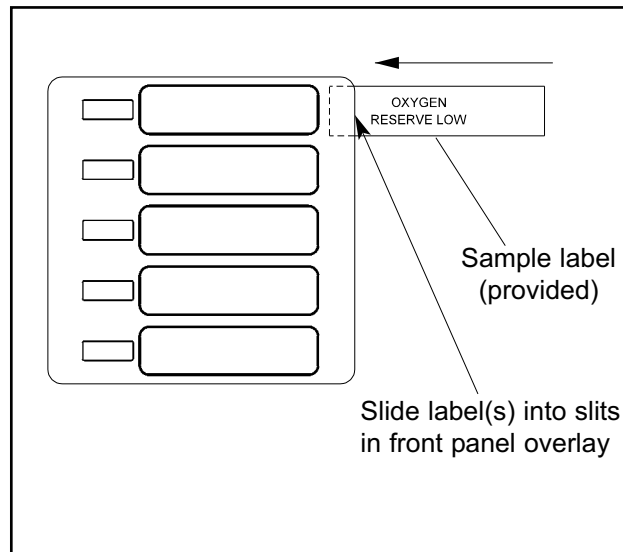

Figure 23: Multi-Signal Front Panel Labeling
4. Insert appropriate source equipment label into multi-signal module front panel as shown in Figure 23. A sheet of common source equipment signals has been provided for convenience. Blank labels are also provided.